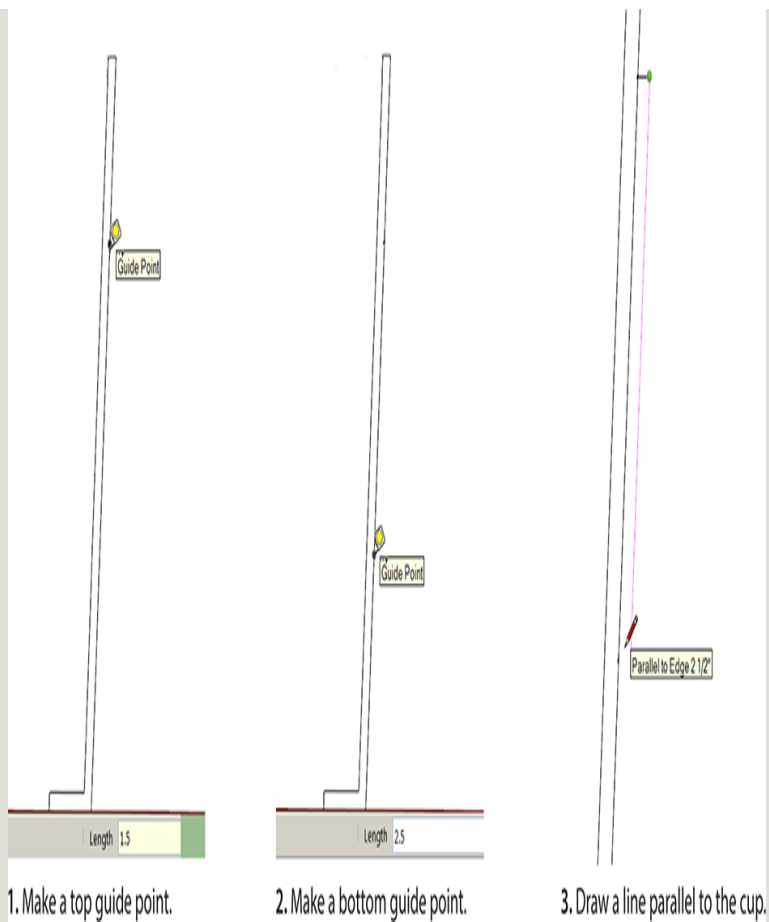

Figure 3-106 Make guide points for the sleeve's height, and then draw the sleeve using the Parallel to Edge inference.
4. Add the sleeve (Figure 3-106). Click the Tape Measure on the top of the profile, move it down, and type **1.5**. A guide point will appear at that location. Repeat, but type **2.5** instead. Then draw lines as shown in Figure 3-106's third graphic using the Parallel to Edge inference. When finished, the profile should have a face and no interior lines (Figure 3-107). You can verify whether a face exists by clicking on it to see if it highlights.